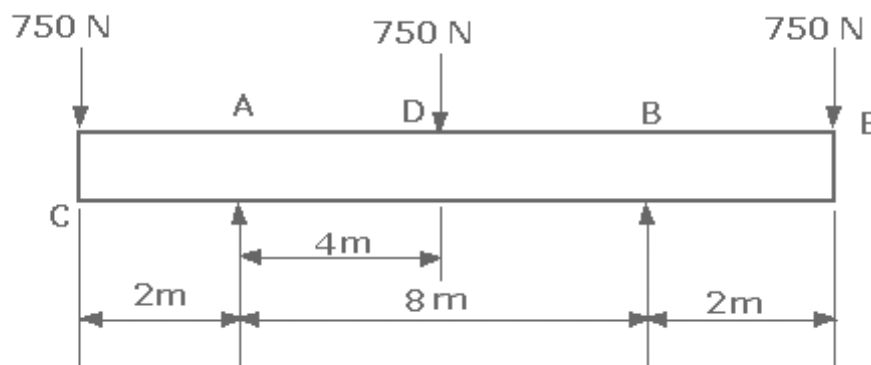

Figure 8
- Draw the S.F. and B.M. diagrams for the beam which is loaded as shown in Figure 8. Determine the points of contraflexure within the span AB. [16]